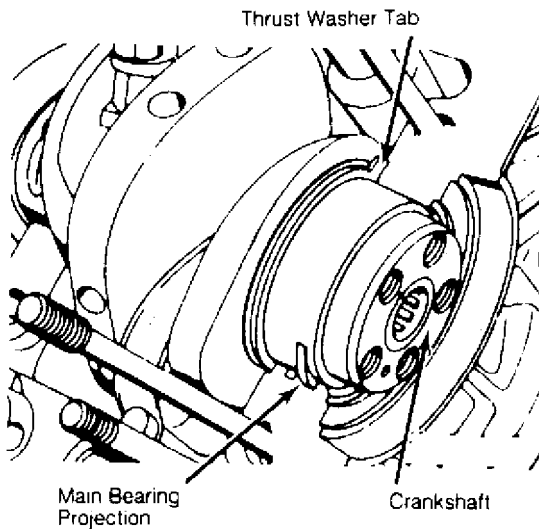

Fig. 10: Installing Thrust Washer & Main Bearing
10) Install rear thrust washer with tab on thrust washer toward main bearing and separating line of crankcase. Ensure projection on main bearing fits in notches in crankcase. Oil holes must be in left half of crankcase. See Fig. 10.